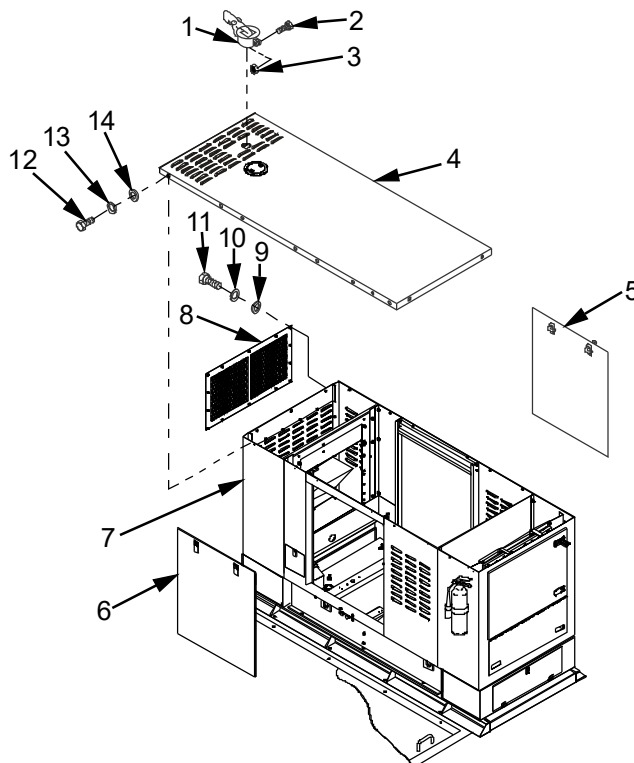

Figure 2. Preparation for Engine/Generator - Replace.
2. Disconnect battery ground cable (black) (WP 0056, Figure 2, Item 26) from battery.
15. Connect battery ground cable (black) (WP 0056, Figure 2, Item 26) to battery.
2. Remove cargo restraints (not shown) to gain access to rear access panel (Figure 2, Item 5) of Genset (Figure 2, Item 7).
3. Remove access doors (Figure 2, Items 5 and 6) of Genset (Figure 2, Item 7) and set aside.
4. Loosen but do not remove nut (Figure 2, Item 3) and bolt (Figure 2, Item 2) that secures exhaust pipe cap (Figure 2, Item 1). Remove exhaust pipe cap (Figure 2, Item 1) and set aside.
5. Remove and retain 20 bolts (Figure 2, Item 12), lock washers (Figure 2, Item 13), and flat washers (Figure 2, Item 14) that secure top access panel (Figure 2, Item 4) to Genset (Figure 2, Item 7). Remove top access panel (Figure 2, Item 4) and set aside. Discard lock washers (Figure 2, Item 13).
6. Remove and retain 16 bolts (Figure 2, Item 11), lock washers (Figure 2, Item 10), and flat washers (Figure 2, Item 9) that secure radiator access panel (Figure 2, Item 8) to Genset (Figure 2, Item 7). Remove radiator access panel (Figure 2, Item 8) and set aside. Discard lock washers (Figure 2, Item 10).